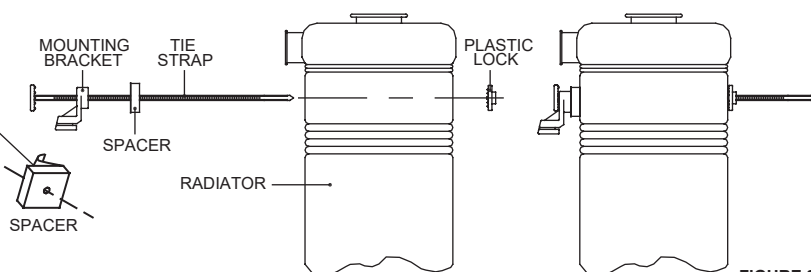

FIGURE 2
5. Slide the tie strap through the mounting bracket, spacer, and heat exchanger as shown. Secure with plastic lock on opposite side of the heat exchanger as shown in **Figure 2**.